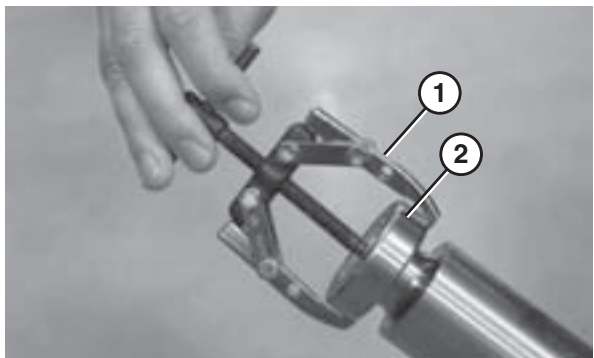

Figure 95
2. Using a bearing removal tool (Figure 95, item 1), remove the bearing (Figure 95, item 2).